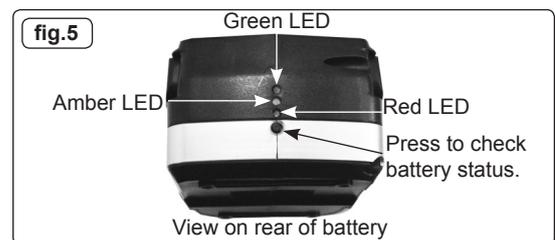

fig.5
- 3.6 During the charging process the battery status can be checked by pressing the button as indicated in fig.5. Red LED illuminated indicates battery is "flat", red and amber indicates partially charged, red, amber and green indicates virtually to fully charged.